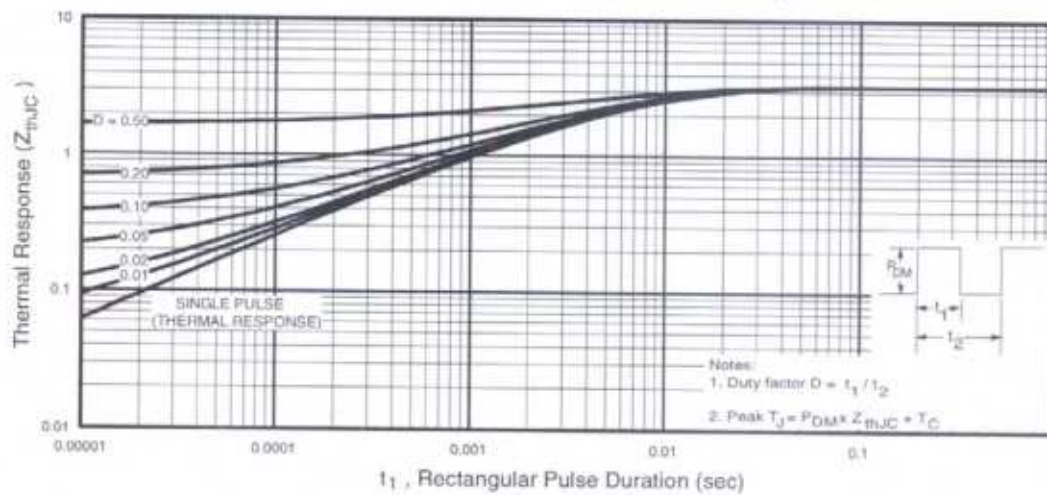

Fig 11. Maximum Effective Transient Thermal Impedance, Junction-to-Case
- ① Repetitive rating; pulse width limited by max. junction temperature. (See fig. 11)
② $V_{DD} = 25V$, starting $T_J = 25^\circ\text{C}$, $L = 790\mu H$